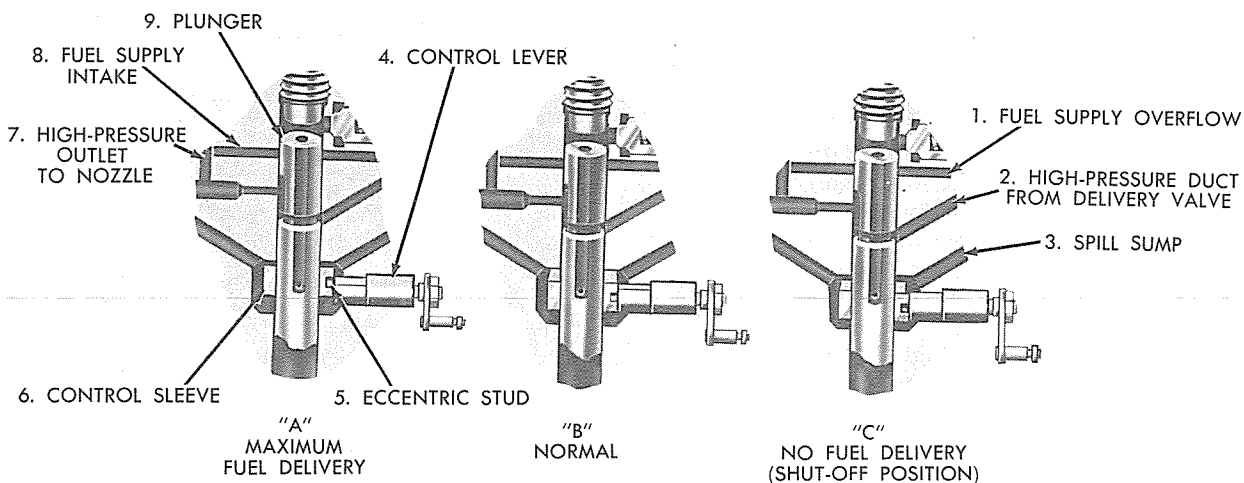

Fig. 22 — Fuel Injection Pump Control Sleeve Positions
The quantity of fuel delivered per stroke is governed by variation of the position of the control sleeve, Fig. 22 (6) in relation to the fixed port closing position (the point at which the top of the plunger (9) covers